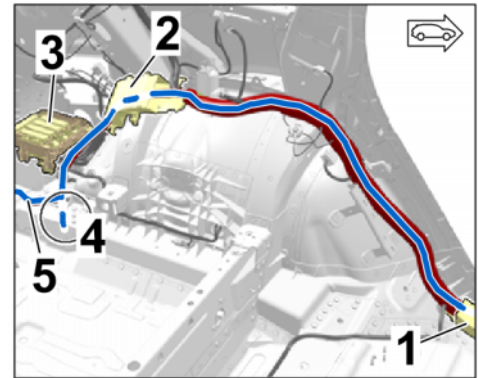

Figure 31
3.2.3 Wheel housing area. left (⇒ Figure 31)